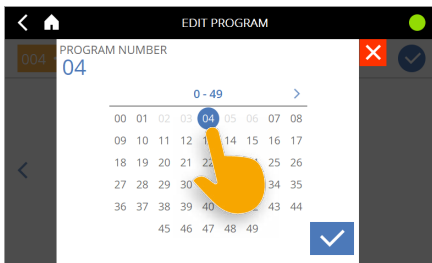

Fig. 52
- ▶ In the first step, a program number must be selected and confirmed (Fig. 52). Numbers from 0 to 99 can be assigned. The selected program number is used as a short code for the program.